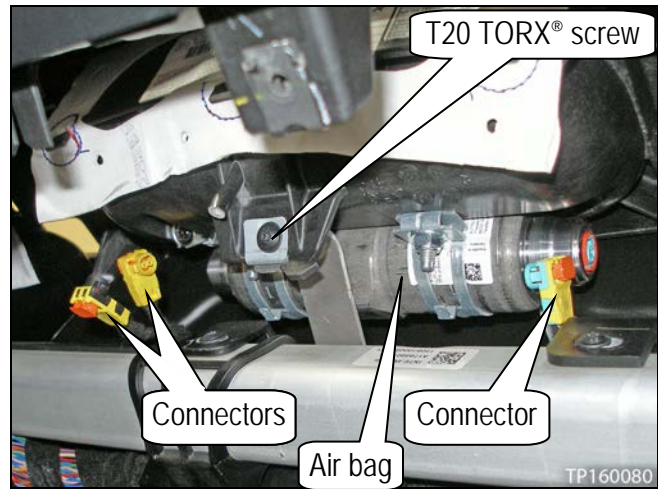

Figure 51
35. Disconnect the three (3) passenger air bag module connectors (see Figure 51 and 52).
36. Remove the T20 TORX® screw (see Figure 51).